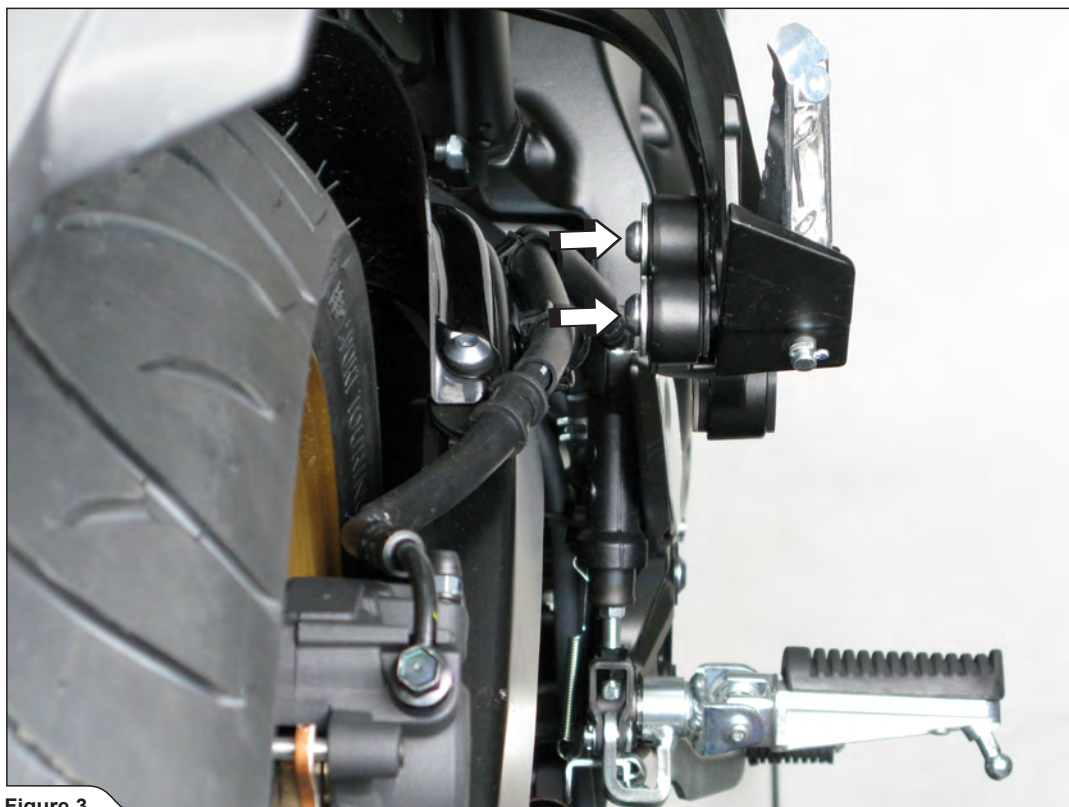

Figure 3
3. Untighten the marked bolts and remove the stock muffler bracket off the motorcycle (Figure 3, 4).